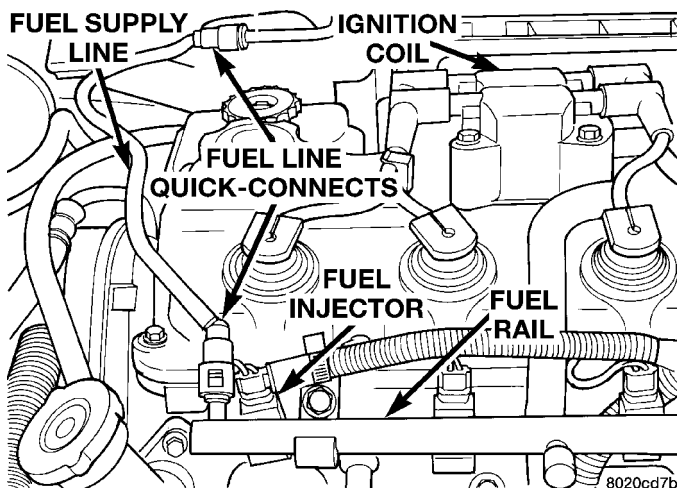

Fig. 37 Fuel Injectors
(8) Inspect the fuel injector electrical connections (Fig. 37).